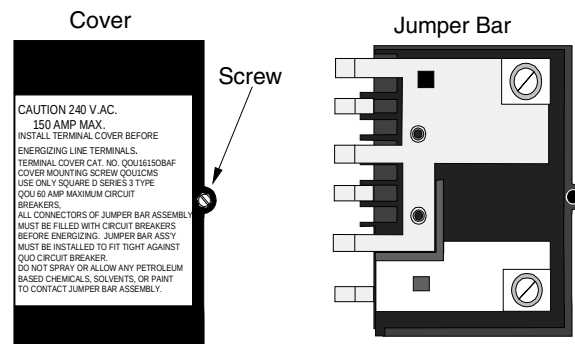

Figure 3
5. Remove and save the screw attaching the jumper bar cover to the jumper bar (Figure 3). Remove cover.